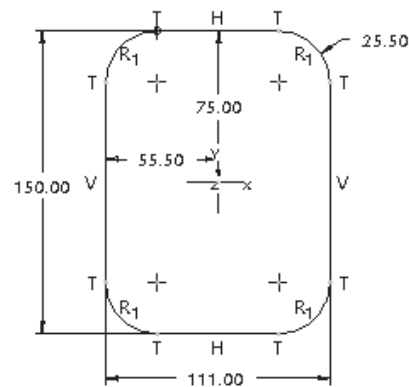

Figure 8-119 Sketch with dimensions and constraints for the second section
- Create the second section for the blend feature, refer to Figure 8-119.
1. Draw the sketch for the second section, insert a reference coordinate system, apply constraints and dimensions to the sketch, and modify the dimensions, as shown in Figure 8-119.